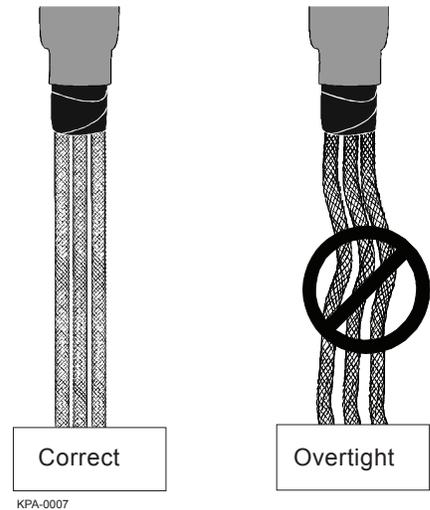

Figure 11
**Step 7:** Gently remove the extra slack in the braided tubing by sliding your hand down the braided tube (Figure 11). Do NOT pull on braided tubing!